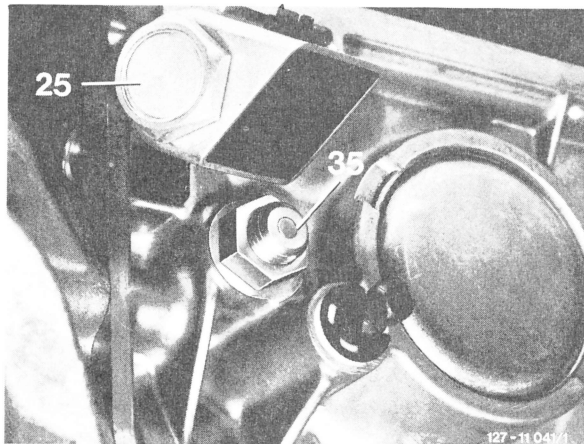

Fig. 74
**96** Partially turn (machine) off hex. head of adjusting screw (Fig. 74).
**97** Screw-in solenoid valve (25) with new O-ring and sealing ring and tighten to 30 Nm (3.0 kpm) (Fig. 74).